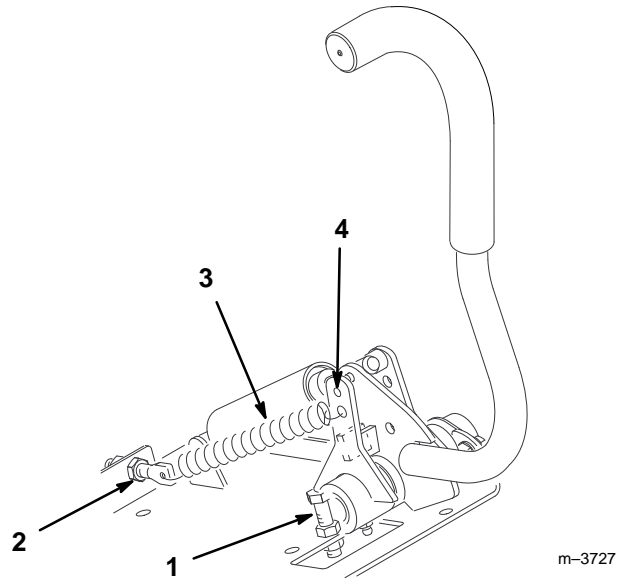

Figure 32
1. Loosen nuts on stop bolts below control assembly (Fig. 32).
1. To adjust tension loosen nuts on the eye bolts holding the springs to mounting plate (Fig. 32).
2. To reduce tension thread nuts off eye bolts (Fig. 32). Tighten nuts to hold new set position.
3. To increase tension thread nuts onto eye bolts (Fig. 32). Tighten nuts to hold new set position.
4. If greater tension is desired, the front hook of the springs can be moved to the outer hole in the control assemblies (Fig. 32).